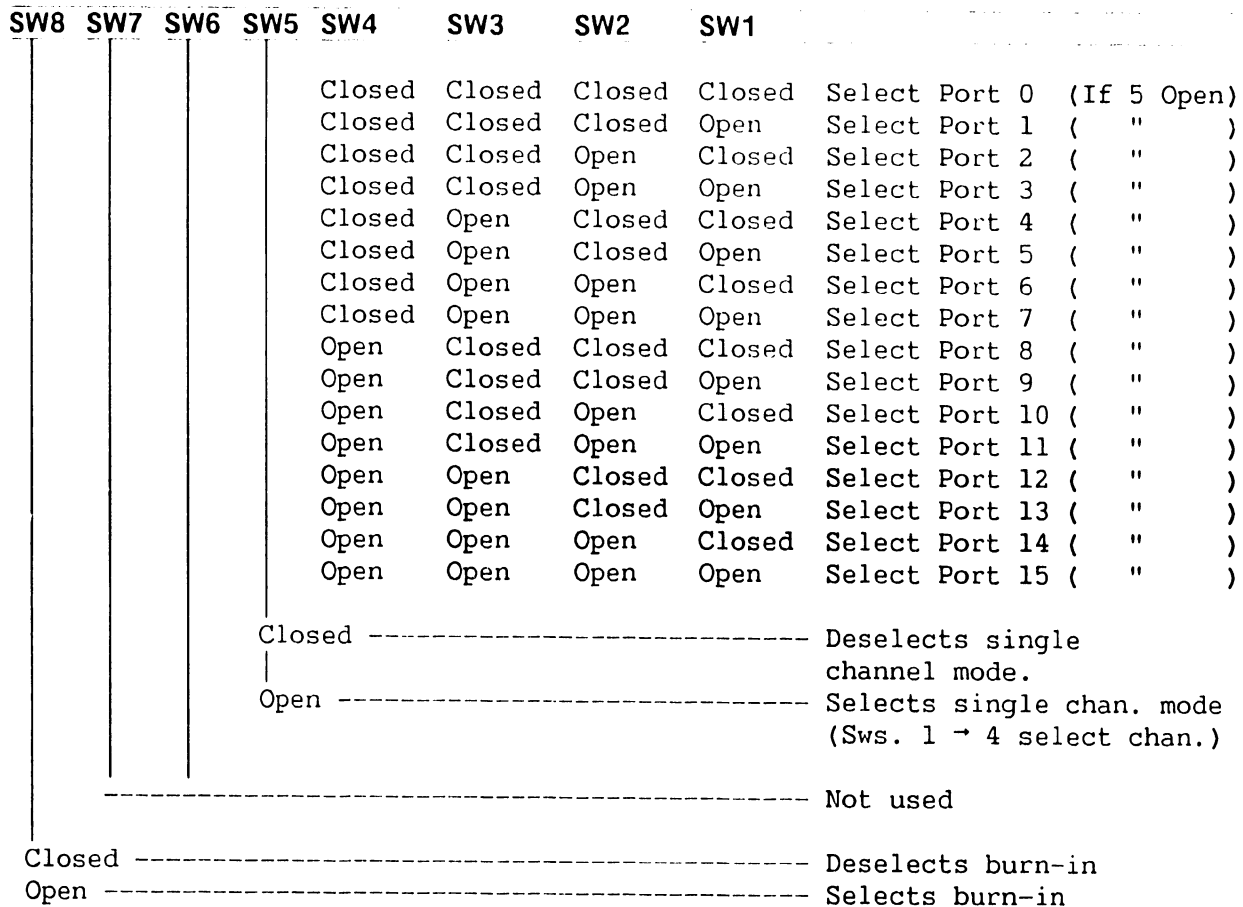

Figure 6-9. Multiline TC IOC 8-Position Diagnostic Switch
The Multiline Telecommunications (MLTC) board contains an 8-position switch (in addition to the 4-position diagnostic switch) which is used in conjunction with the BIT. All positions of the 8-position switch must be closed (ON) to execute normal BIT routines. See figure 6-9.